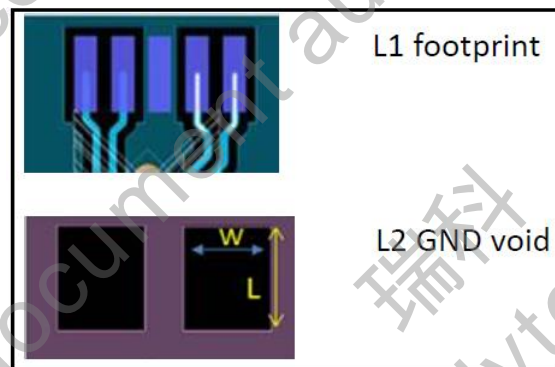

Figure 15. SFP+ Connector Footprint Voiding
- The biggest discontinuity of impedance occurs at the connector; use ground voiding under the connector footprint to mitigate the effect. The void for tx & rx differential pair pins of SFP+ connector is shown in Figure 15